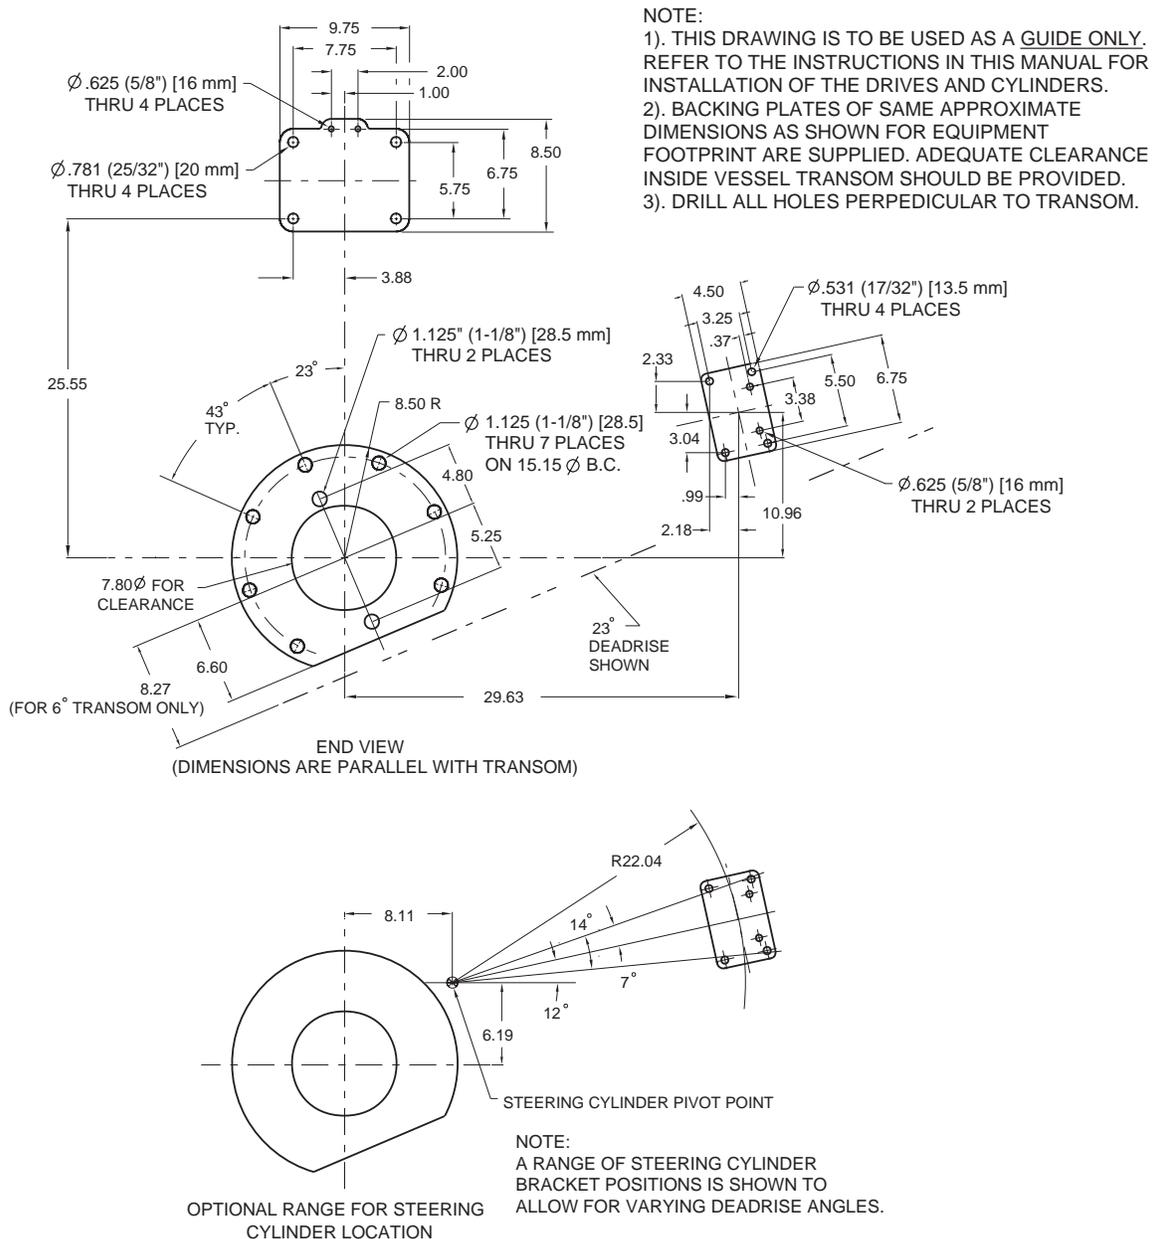

Figure 14. Transom Layout Dual Drive
- Transfer the trim bracket hole pattern and drill four 20 mm (0.78 in.) and two 15.5 mm (0.61 in.) diameter holes as shown in Figure 14 and drawings 1017597-1 and -2. Mount the trim cylinder bracket with its backing plate and stainless steel 3/4 in. diameter bolts, nuts, and washers. Torque nuts to 122 N-m (90 ft.-lbs). Apply a generous layer of marine transom sealant under the bracket and in the fastener holes in the transom to prevent water leakage. Do not turn the bolts when tightening them. Hold the bolts in place and only turn the nuts. If this procedure is not followed, leaks can develop in the holes.
3. Set the steering cylinder to the mid-travel location and position the steering cylinder mounting bracket on the transom. See Figure 14. The height and orientation of the mounting bracket should be such that the mounting bracket, the clevis, and the rod end are as close to centered as possible. For hulls with moderate deadrise, this height is usually dictated by clearance from the hull bottom.
two 16 mm (0.63 in.) diameter holes as shown in Figure 14 and drawings 1014597-1 and -2. Mount the steering cylinder bracket with its backing plate and stainless steel 1/2 in. diameter bolts, nuts, and washers. Torque nuts to 61 N-m (45 ft.-lbs). Apply a generous layer of marine transom sealant under the bracket and in the fastener holes in the transom to prevent water leakage. Do not turn the bolts when tightening them. Hold the bolts in place and only turn the nuts. If this procedure is not followed, leaks can develop in the holes.